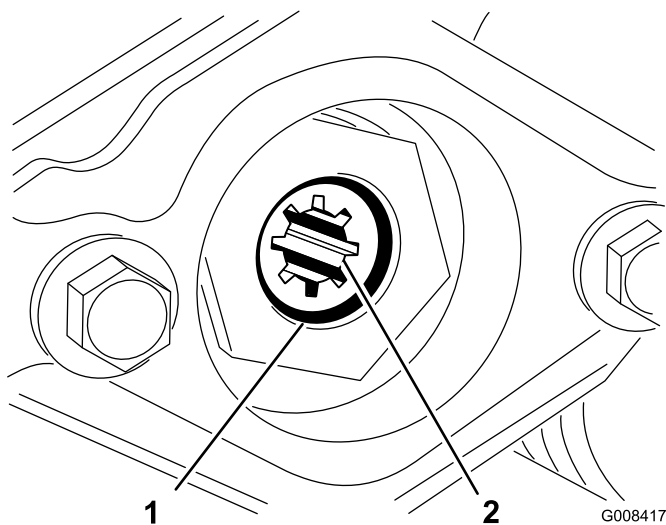

Figure 15
3. Allen head screw (2)
- D. Remove the snap ring securing the drive coupler in the reel tube (Figure 15). Remove the drive coupler.